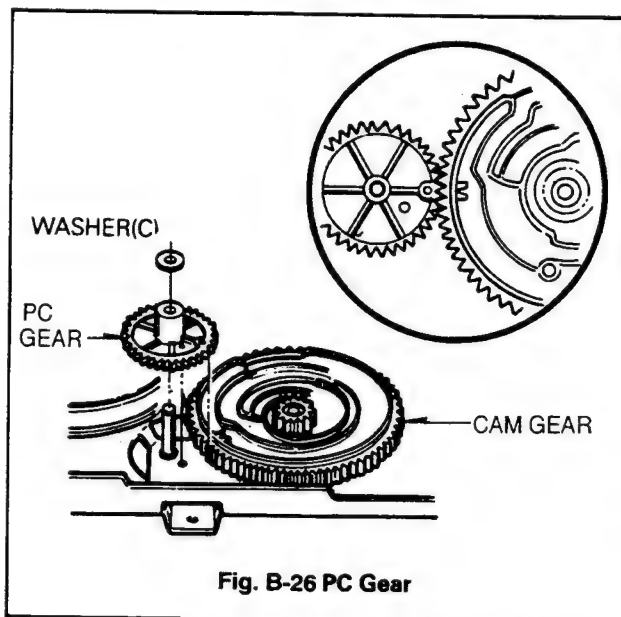

Fig. B-26 PC Gear
- ① Align the Projection of Rack Gear T with the hole of Loading Gear.
- ② Drive the Rack Gear F.L in the direction of arrow(D).
- ③ Hole of Cam should be aligned with the hole of chassis, and the groove(■) of Cam Gear should be aligned with the hole of PC Gear (Fig. B-26).
## 26. PC Gear(Fig. B-26)
- ① The Groove of PC Gear should be aligned with the groove(V) of Cam Gear, and another hole of it should be aligned with the hole of chassis (Fig. B-26).